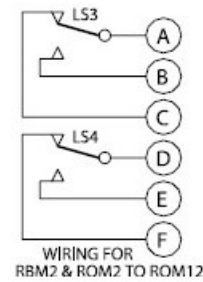

Figure 6: LS3/LS4 in wiring diagram
-the contact of LS4 is closed (voltage 24VDC on Terminal E, see Figure 6)
-the contact of LS3 is closed (voltage 24VDC on Terminal B, see Figure 6)